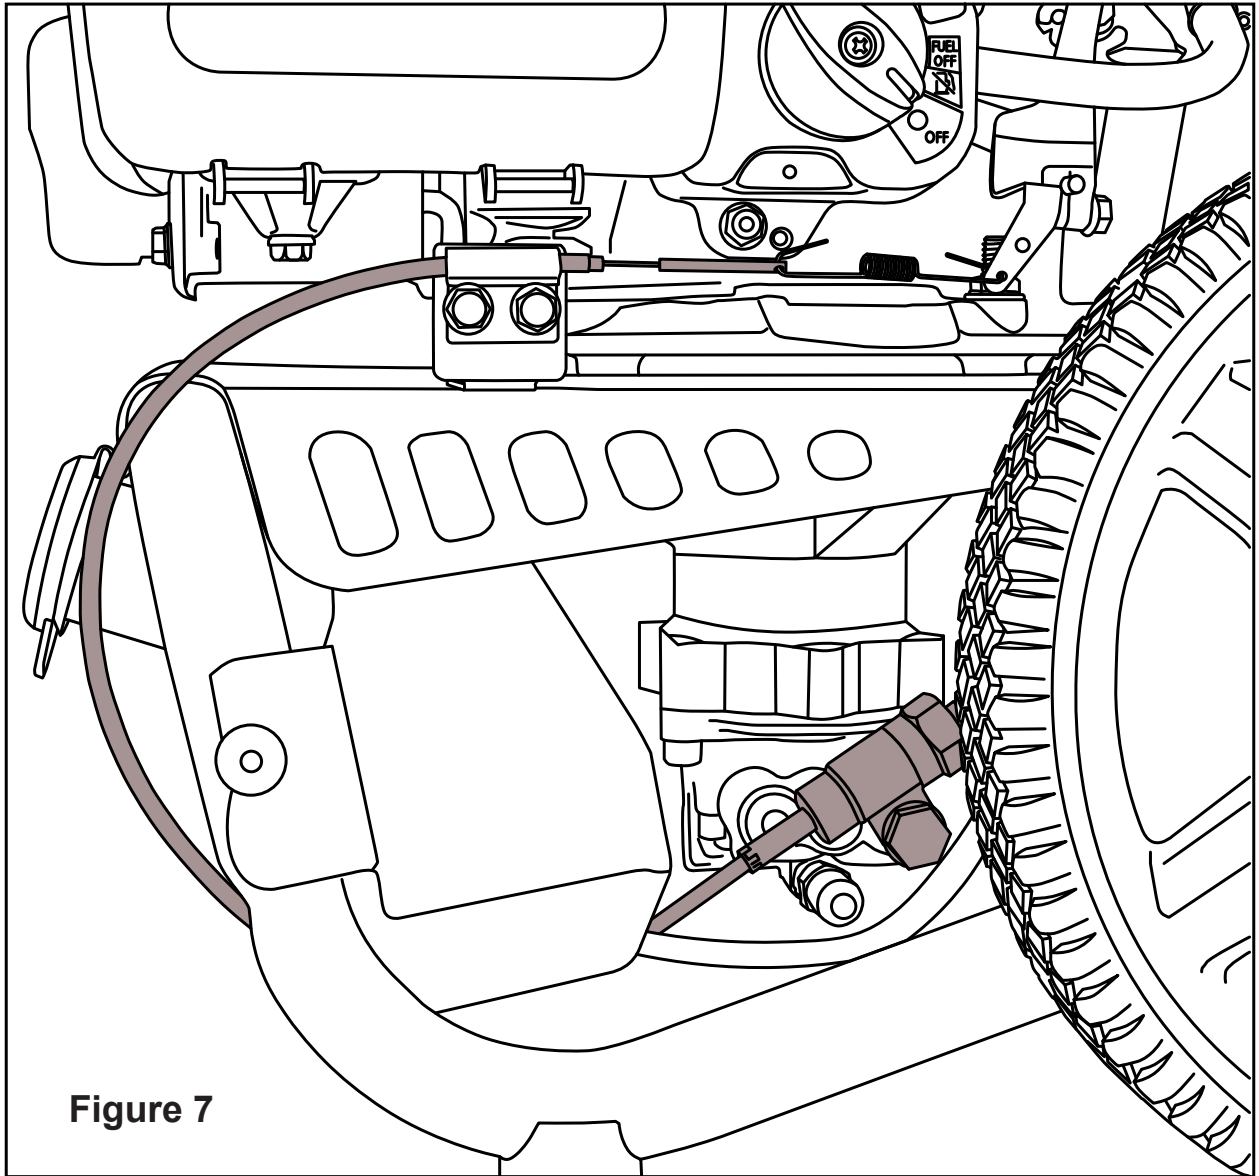

Figure 7
3. Route the idle valve cable in front of the soap tank and insert it into the cable retention bracket. (Figure 2) See Figure 7 for proper idle down cable routing.